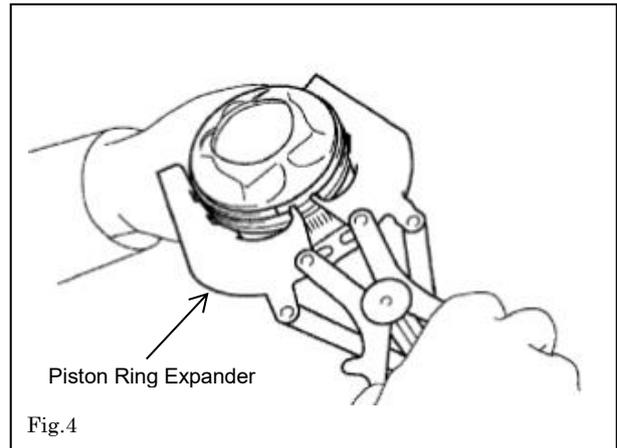

Fig.4
5.1 Install piston rings onto pistons using a piston ring expander. (See the figure 4.)